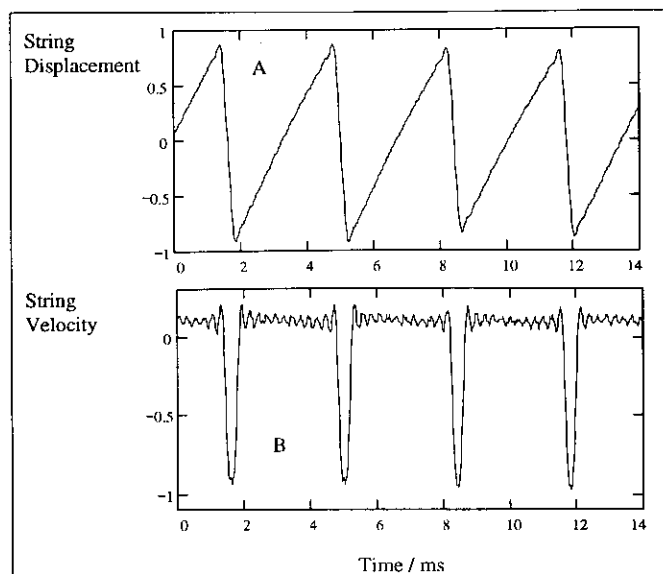

Fig. 4. Measured (A) displacement and (B) velocity of a hurdy-gurdy string sounding D_4 (293.7 Hz).
More concrete evidence is provided in Figure 4. This shows the displacement (A) and velocity (B), plotted against time, of a hurdy-gurdy string obtained from recent measurements on a good quality 19th century instrument (to be described more fully below). Considering curve (B) only, it is seen that for most of the period the velocity is slightly positive as the string is